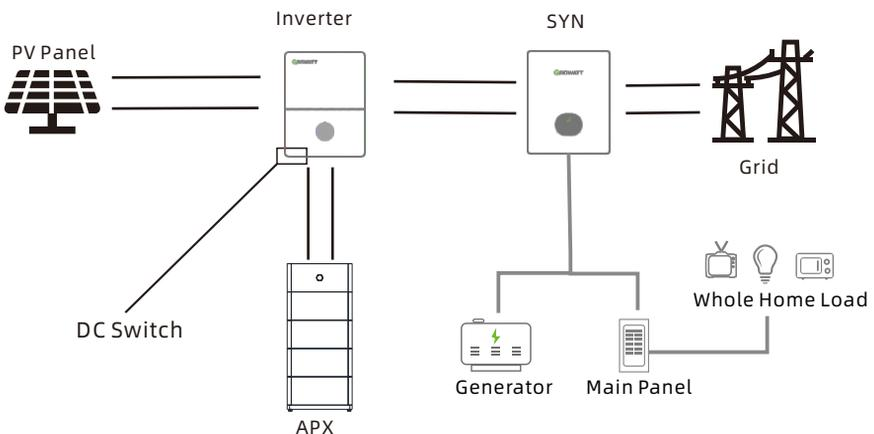

Figure 5-1
Step 2: Turn on the DC switch of the inverter(Figure 5-1).
Step 2: Turn off the DC switch of the inverter(Figure 5-1).